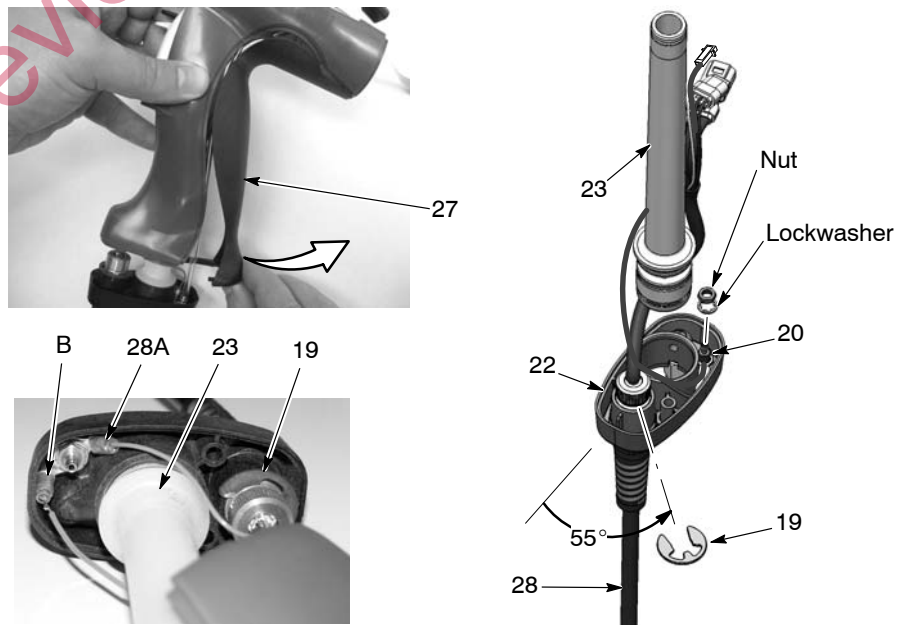

Figure 5 Removing Bulkhead and Body Screw
18. See Figure 5. Gently pull the ground pad (27) away from the handle, starting with the bottom and rotating it up and away.
20. Use a deep $\frac{1}{4}$ -in. socket to remove the nut and lockwasher from the barbed fitting (20) and disconnect the gun cable ground wire (28A) and display module ground wire (B) from the fitting (guns that have not had the display module upgraded previously will not have a display module ground wire). Discard the display module ground wire.
21. Remove the retaining ring (19) from the cable, then remove the cable (28) from the base.
1. See Figures 5 and 6. Re-install the lockwasher and nut on the barbed fitting and tighten the nut with a deep $\frac{1}{4}$ -in. socket.
2. Feed the new cable included with the upgrade kit (28) through the handle base (22) and secure it to the base with the retaining ring (19). Position the retaining ring at the angle shown.
3. Install the inlet tube with O-rings installed (23) into the handle base (22), if removed.
6. Connect the 4-mm clear tubing (part of filter assembly, item 4) to the barbed fitting (20) in the handle base.